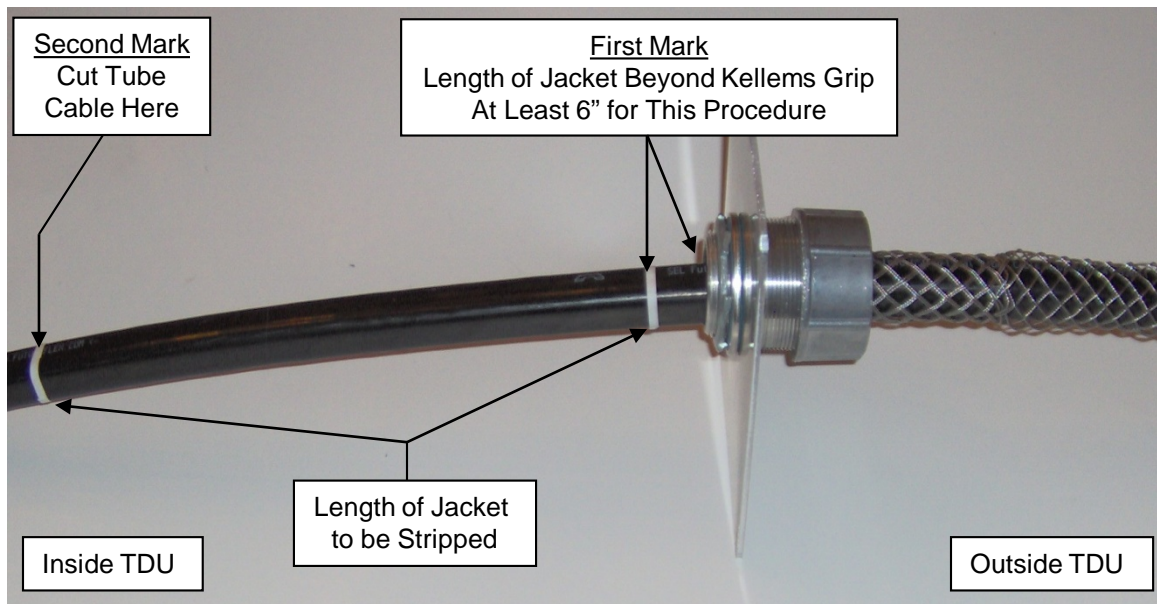

Figure 8
7.3 Place tube cable into TDU enclosure and mark jacket in two (2) places. See **Fig. 8**.